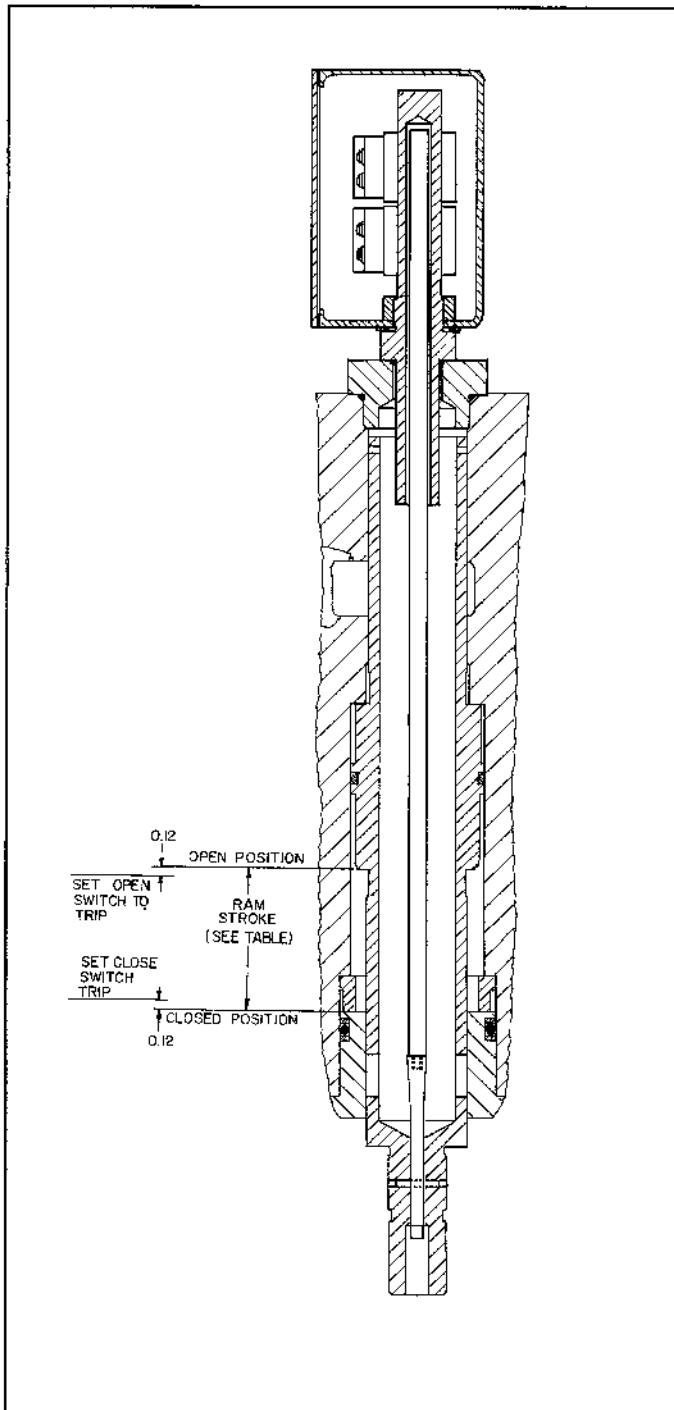

Figure 10. Open and Close limit switch positioning (508280C).
1. **Limit Switches.** Determine the current requirements for limit switches and conduct a routine test of switches. If necessary, replace with switches of the same type and current rating. To adjust (reposition) limit switches, refer to Figure 10 and 14. With prefill in the OPEN position, mark the fully extended telltale rod (20) position in the adapter (207). Move telltale back 0.12 inches (3.05mm) and move "open switch" (211E) until it "trips" at that point. The "close" switch (211R) should be set to trip when it's center line is "ram stroke (Table 2) minus 0.24 inches (6.1mm) from the center line of the open switch - or, move the prefill to the CLOSE position, mark the fully retracted telltale (20) position in the adapter. Move the telltale outward 0.12 inches (3.05mm) and position the "Close Switch" (211R) until it trips at that position.